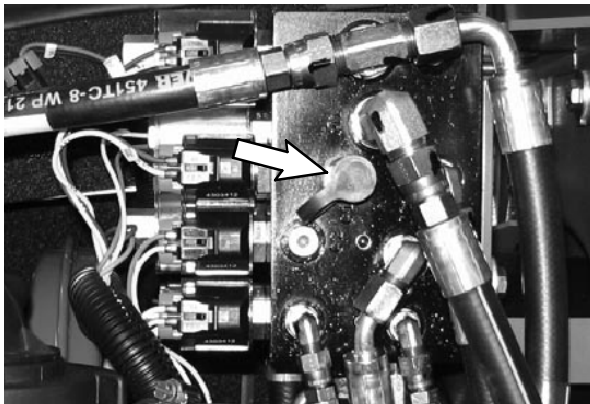

FIG. 20
15. Remove the port cover from Port G1 on the the scrub block. Refer to Fig. 20.